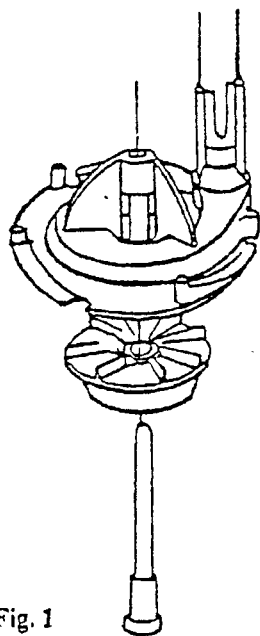

Fig. 1
3. Lock spray tube into the pump cover. Wet pump cover with warm water for ease of insertion or removal of spray tube (*see Fig. 1*).